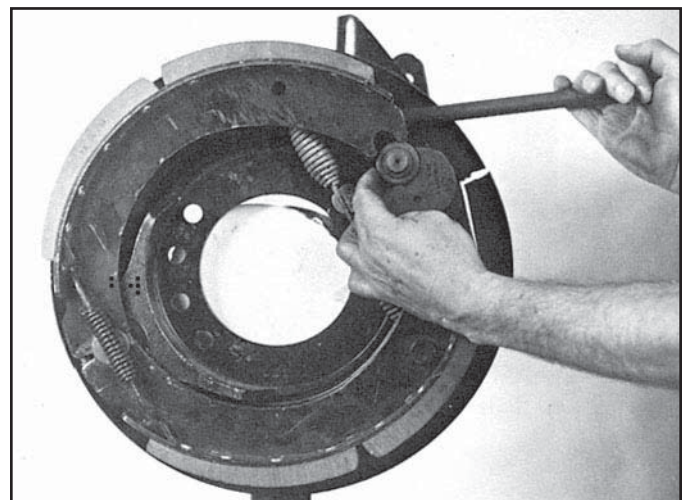

FIGURE 3 - REMOVING CAM ROLLERS
1. Insert a sturdy lever between one of the shoes and the cam shaft housing. Pry shoe away from cam roller until pin and roller assembly can be removed. Repeat on opposite shoe. (See Figure 3) (If cam rollers or pins show signs of wear, galling, pitting, cracks; discard and replace with new.)